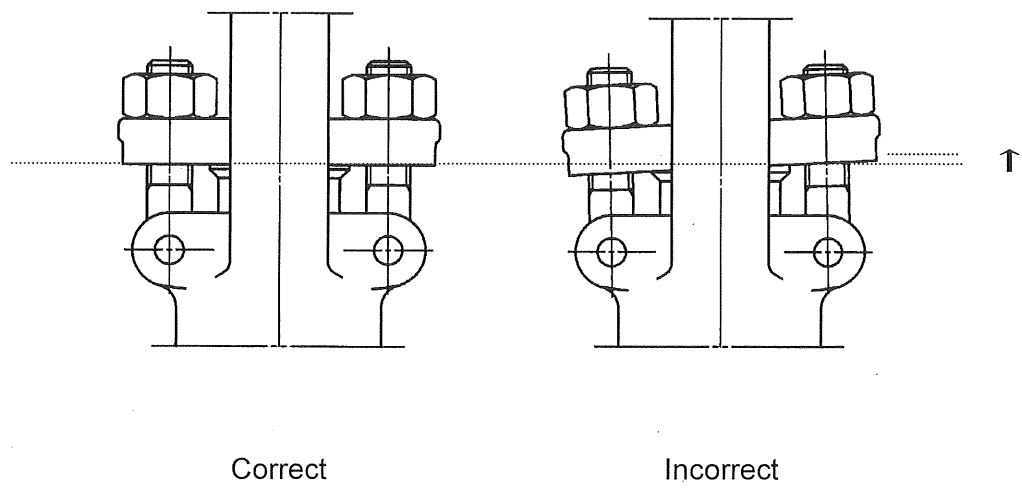

Figure 6.3 Examples for Adjustment (Tightening) of Gland bolt nuts
- 6) When tightening up the gland bolt nuts, the hand wheel should be turn now and then so to adjust the tightness of the gland packing, as shown in Figure 6.3. Tightening up the gland bolt nuts gradually and uniformly in order to avoid tendency to twist.